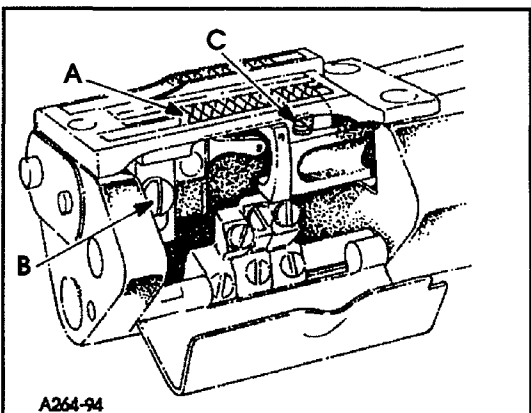

FIG. 11
Assemble the main feed dog and throat plate. Main feed dog (A, Fig. 11) at its highest position, should be set to project above the throat plate, slightly more than the depth of its teeth for Style 35800DQW and slightly more than the depth of its lower teeth for Styles 35800DRW, DRWL. The feed dog mounting screw (B) and front support screw (C) should be set to maintain this setting.